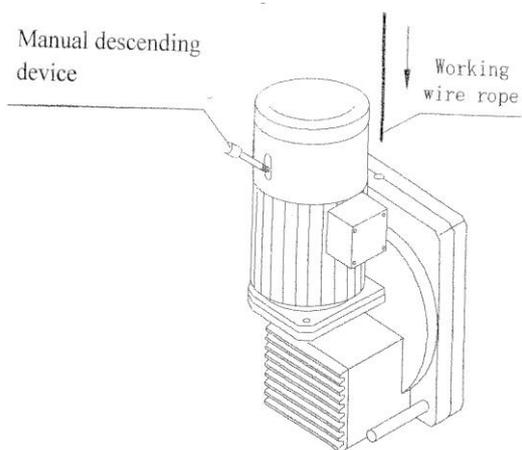

Figure 3: LTD5 Hoist
3.3.2 The hoist is provided with automatic rope feeding function and operators just need to insert steel rope into the inlet of the hoist (see figure 3 as below).
3.3.3 The electromagnetic brake of hoist motor is able to be auto-engaged to produce braking torque that stops and supports the suspended platform. In the event of power failure or emergency, the manual descending device can be used to prompt the suspended platform to slide downwards at even speed (see figure 3 as below).